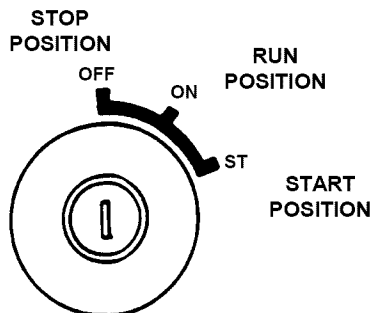

FIGURE 2.7
- 6. IMPORTANT: (Diesel Engine Only)** Use the Glow Plug only if engine is cold or outside temperature is cold. Rotate key counter clockwise to the preheat position (GL letter designation on switch) to allow the glow lamp to heat up. Hold key in the Glow Plug position for a maximum of 5 seconds See Figure 2.7.
7. Rotate key clockwise to the start position until engine starts. See Figure 2.7.
1. Stop engine by turning key to the "OFF" position. Move engine speed control to turtle "SLOW" position and key to "STOP" position. See Figure 2.7.